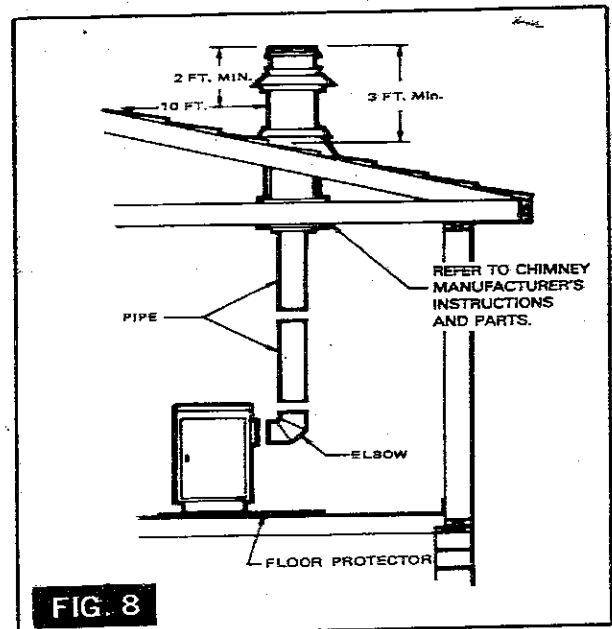

FIG. 8
1. The chimney connection should be as short as possible. The heater must have its own chimney. Do not connect this unit to a chimney flue serving another appliance. If there is no chimney near where you wish to place the heater, you can use a UL Listed Residential Type and Building Heating Appliance Chimney. (Fig. 8).
Carefully follow chimney manufacturer's instructions. Use only a UL Listed Residential Type and Building Heating Appliance Chimney. If your chimney starts at the ceiling (Fig. 8), you will need a 6" elbow and enough 6" pipe to reach the ceiling.
The top of the chimney must be at least 3 feet above the roof and be at least 2 feet higher than any point of the roof within 10 feet (Fig. 8).